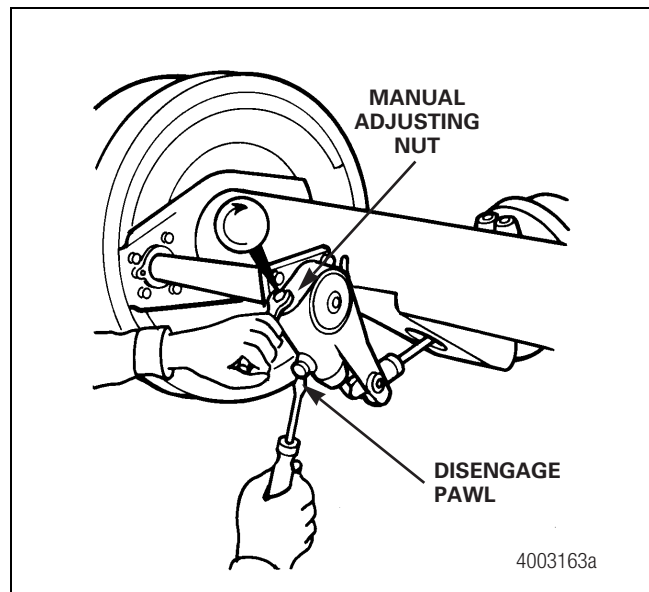

Figure 3.5
- **For a pull pawl:** Pry the pawl at least 1/32-inch (0.794 mm) to disengage the teeth. Replace a conventional pawl with a pull pawl. Figure 3.5.